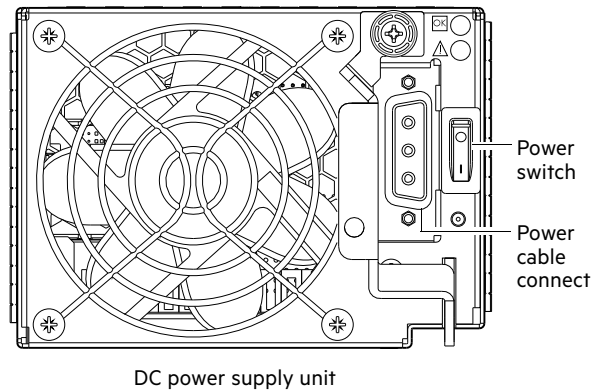

Figure 13 DC power supply
See Figure 13 and Figure 14 when performing the following steps:
Press the power switches at the back of each drive enclosure to the **On** position. Allow several seconds for the disks to spin up. See also Figure 13 \(page 25\).
Press the power switches at the back of the controller enclosure to the **On** position. Allow several seconds for the disks to spin up. See also Figure 13 \(page 25\).
3. Press the power switches at the back of the controller enclosure to the **Off** position. See also Figure 13 \(page 25\).
4. Press the power switches at the back of each drive enclosure to the **Off** position. See also Figure 13 \(page 25\).